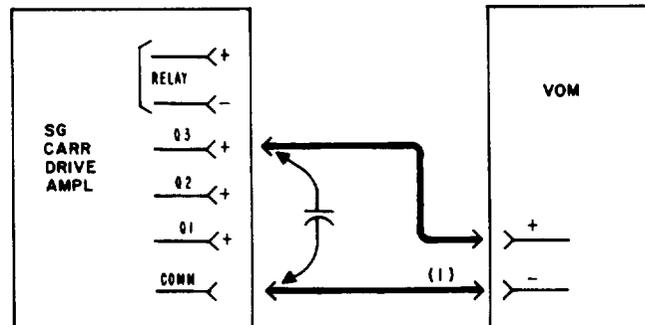

Fig. 4—Supergroup Carrier Drive Amplifier Voltage Tests
| 1 | Measure the dc voltage at each test jack on the drive amplifier under test per Table A [patch (1), Fig. 4]. |